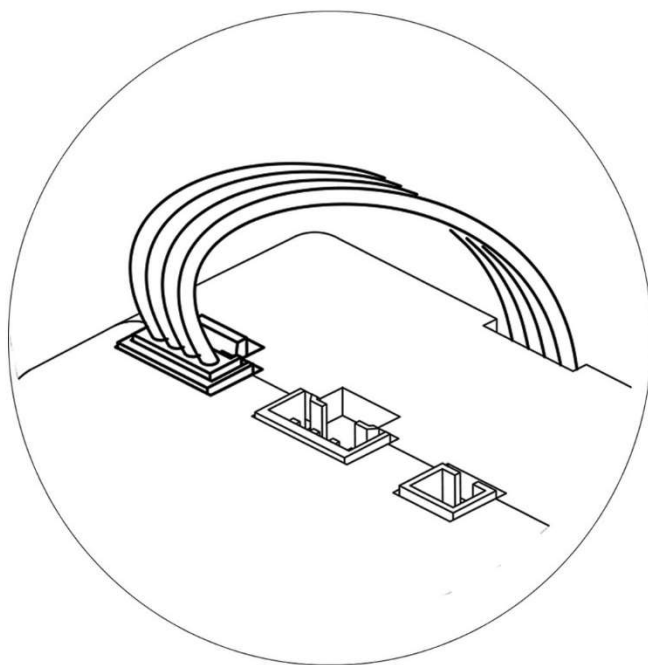

Fig. 12
8. Press the connector into the socket on the springbolt lock body. Make sure the connector is secured in place. (Fig. 12)